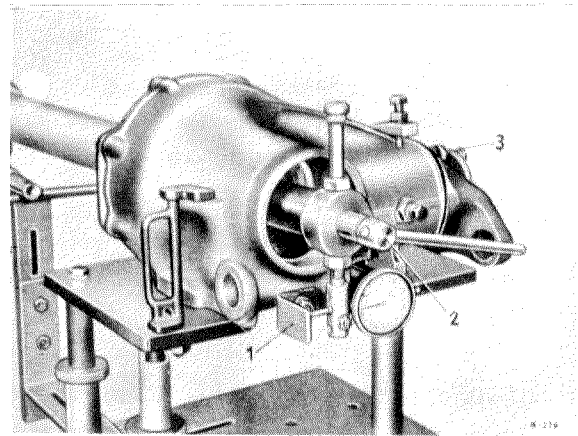

Fig. 35 — 4/32
84. Fix the stop bracket (1) to the rear axle housing.
85. Insert the holder (2) with dial gage in the bore of the differential housing and clamp it in position.
86. Adjust the holder in such a way that the feeler of the dial gage points to the diameter of 176 mm marked on the stop bracket (1).
87. Clamp the drive pinion shaft to the joint flange with a screw (3) (see Fig. 35 — 4/32).